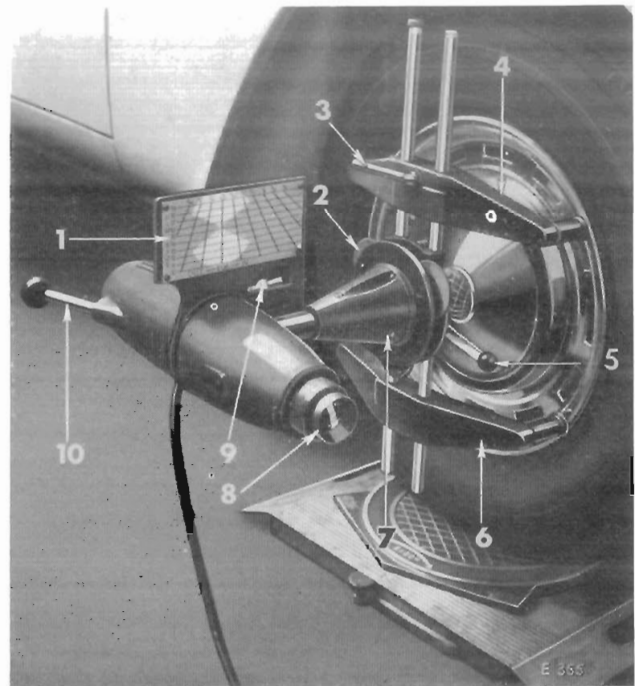

Fig. 36. Projector attachment
To check toe-in condition, aim the light image at the centre of the mirror and, by tilting the mirror up or down, re-direct and focus the image on to the toe-in scale (1), Fig. 36, attached to the top of the projector. Turn the steering to align the light image with the zero line on the scale. In this position the road wheel is at right angles to the mirror.